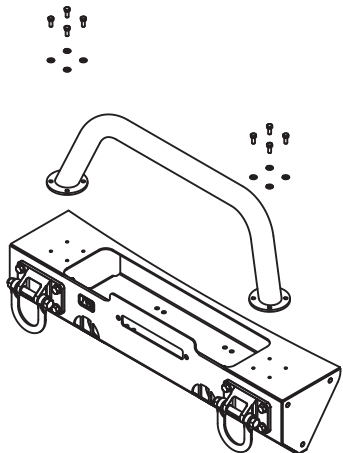

Figure 2a
2. Position Hoop over the Center Section, aligning the holes in the Hoop with the holes in the top of the Center Section (Figure 2a). Note that the Hoop can be installed leaning back or leaning forward, depending on the desired look (Figure 2b). Start bolts (supplied with center section), but do not tighten.